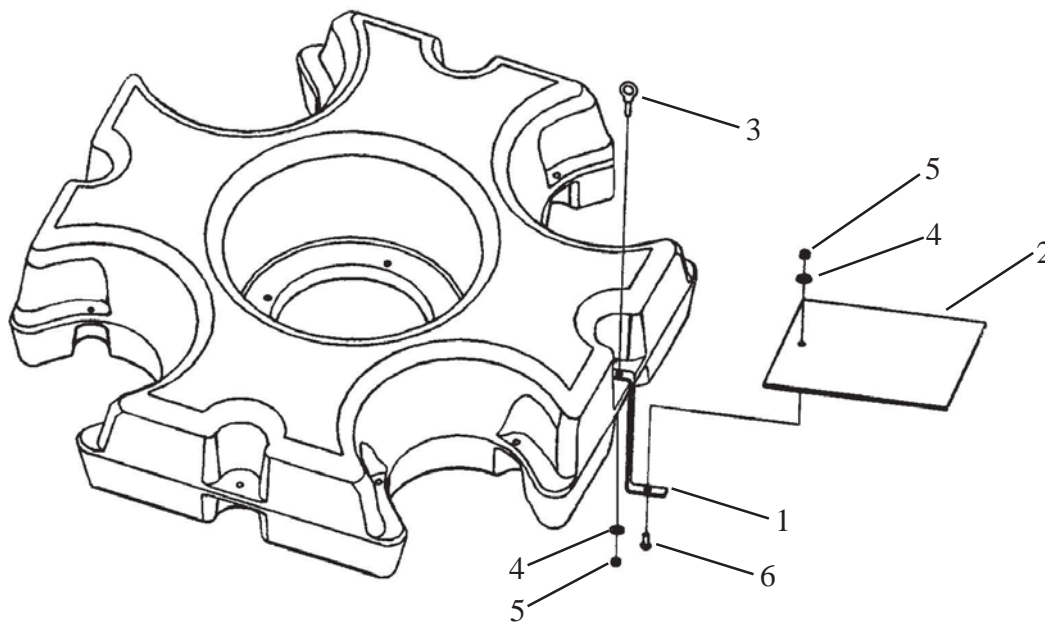

Figure 1a
Comet Stabilizer Plates Mounting (Figure 1a)
A. Mount each of the four stabilizer plates to the top side of a bracket using a hex bolt, a fender washer, and a nylon locknut as shown in Figure 1a.
B. Mount each of the four stabilizer plate assemblies from Step A to the top side of an outer hole in the float using an eyebolt, a fender washer, and a nylon locknut as shown in Figure 1a. **CAUTION:** Do not overtighten, may cause damage to the float.